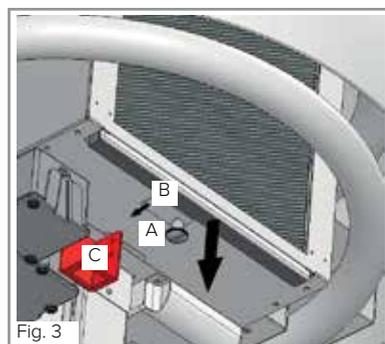

Fig. 3
- Slacken one of the retaining screws (“A” in Fig. 3) by a maximum of one turn.
- Swing the retaining tab (“B” in Fig. 3) aside to release the carbon filter and aluminium grease filter.
- Swing the retaining tab (“B” in Fig. 3) into position to hold the filters in place.
- Tighten the retaining screw (“A” in Fig. 3) to secure the retaining tab in position.
3. There is a hidden on/off switch inside the body of the globe. Ensure that this has not been accidentally switched off during installation or maintenance. This switch is shown as “C” in Fig. 3.